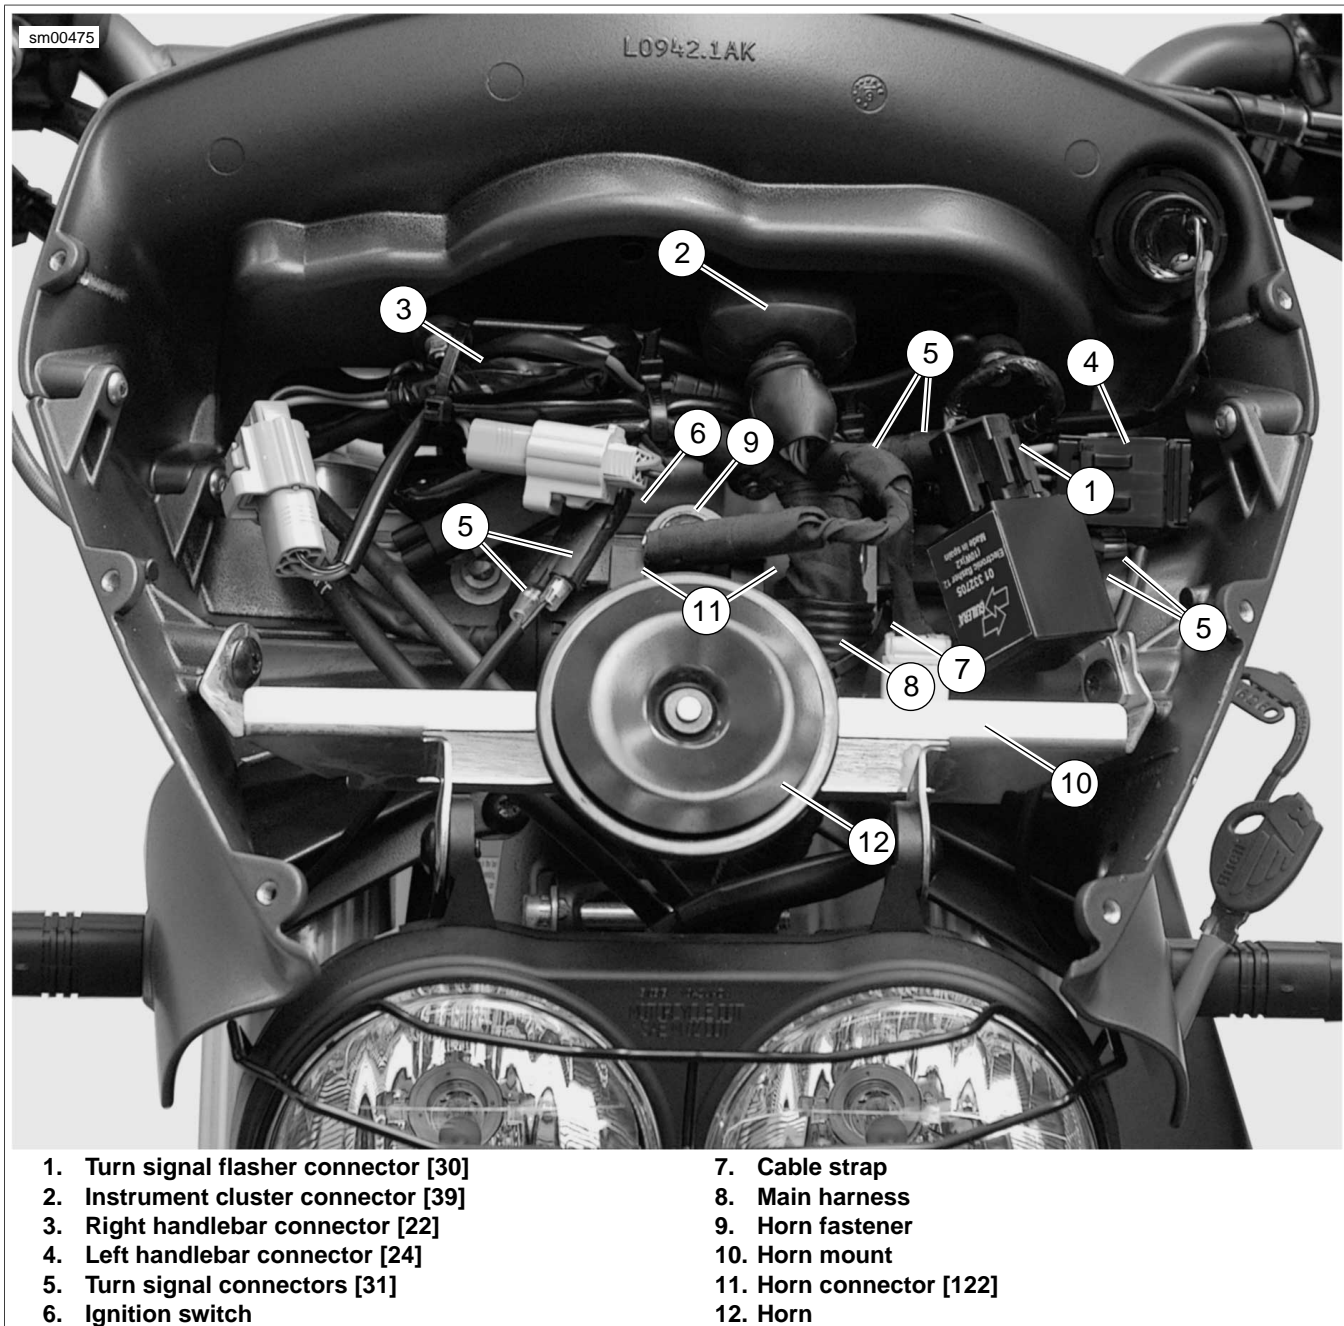

Figure 6-10. Electrical Connectors Behind Windscreen: Ulysses
4. See Figure 6-10 and Figure 6-11. Cut cable strap (7) that loosely holds main wiring harness to the ignition switch and disconnect ignition switch connector [33].